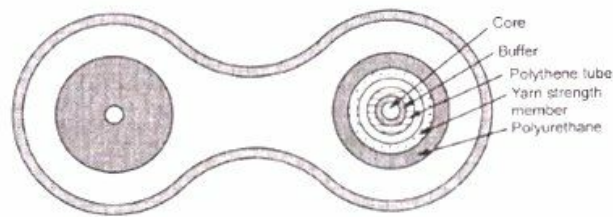

Fig. 1.10.1 Two fiber cable design
- Several arrangements of fiber cables are done to use it for different applications. The most basic form is two fiber cable designs. Fig. 1.10.1 shows basic two fiber cable design. It is also known as basic building block of fiber cable.
- For providing strength to the core several coatings of different materials are applied as shown in fig 1.10.1.